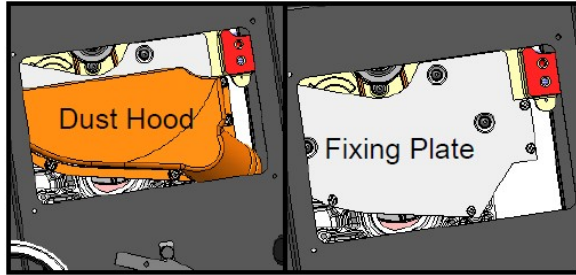

Figure 43
4. Remove the dust hood (Philips screwdriver needed) and the fixing plate, (5mm Hex Key required). Figure 43
4. Remove the dust hood (Philips screwdriver needed) and the fixing plate, (5mm Hex Key required). **Figure 43**